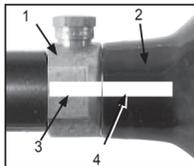

Figure 4: Properly marked Valve and Cylinder
**The brass or nickel plated cylinder valve (Figure 4, #1) is intended to be permanently attached to the air/CO2 cylinder (2). An air/CO2 cylinder can fly off with enough force to cause serious injury or death if the cylinder (2) unscrews from the cylinder valve (1).**
Refer to Figure 4. There have been reported incidents caused by players unknowingly unscrewing the cylinder (2) from the cylinder valve (1). This occurs when the player thinks the entire valve-cylinder assembly is being unscrewed from the air supply adaptor (ASA) of the paintball marker, when in fact they are unscrewing the cylinder from the cylinder valve.
- Watch the marks on the cylinder and cylinder valve (as shown in Figure 4) as you turn the cylinder approximately ¼ turn counterclockwise. This allows the air/CO2 cylinder's pin valve to close so that no gas enters the marker.